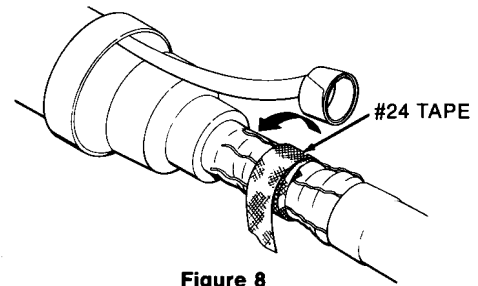

Figure 8
- a. Hold the flat strap of the shield continuity assembly against the mold body with a wrap or two of vinyl tape at end of mold body. Make certain coils are positioned over ground wires only before securing strap to splice body. Figure 8.